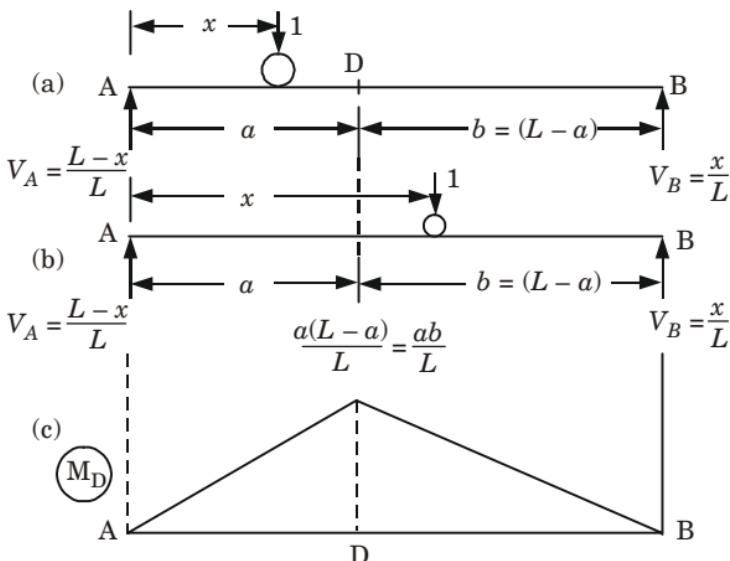

Fig. 4.8.2.
- Fig. 4.8.2 shows a simply supported girder  $AB$  of span  $L$ . Let a unit load move from the end  $A$  to the end  $B$  of the girder.